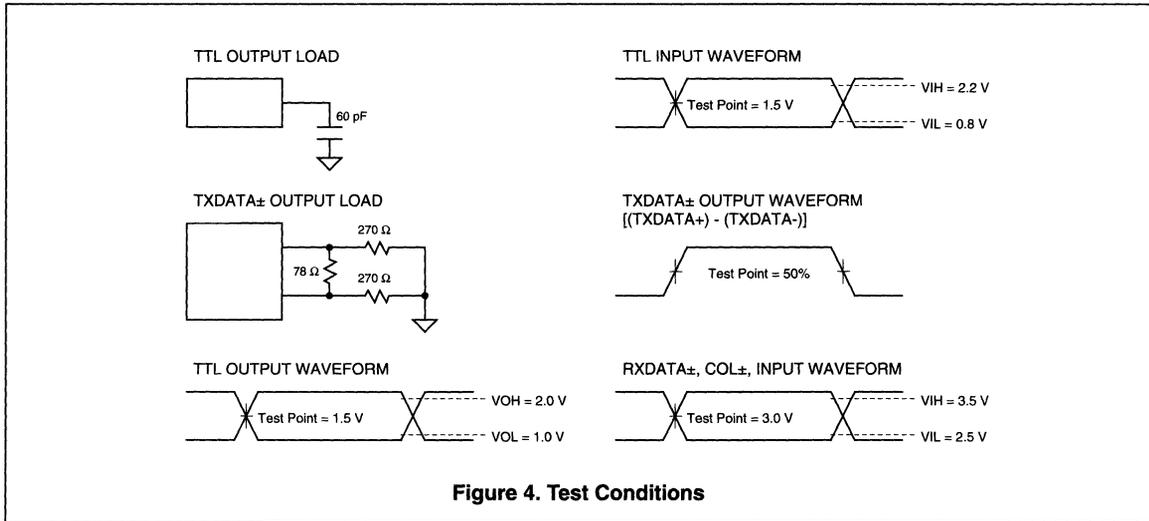

Figure 4. Test Conditions
3. All voltage measurements are referenced to ground. See Figure 4 for test conditions.